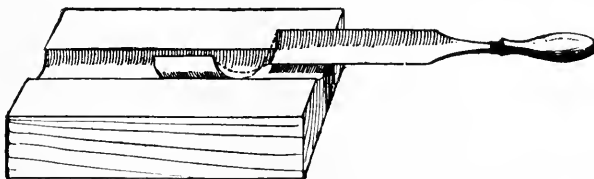
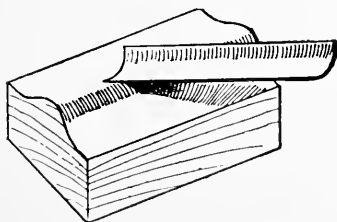

Fig. 160
Fig. 161
51. **The Gouge** is like the chisel except that the blade is curved. The common gouge has the basil or bevel on the convex or outer side and is known as an “outside” gouge. It is used for ordinary work. The “inside” gouge has the basil on the inner or concave side, and is useful for some purposes, but is less important than the outside gouge for general work, and is harder to sharpen. Gouges, like chisels, are of various kinds for different uses, and are of different degrees of “sweep” or curvature,—Fig. 159 showing a “flat” and a “quick” curve. In using the outside gouge, light, short strokes frequently have to be made, for only the basil bears on the wood, which makes this gouge hard to control at times; but as long strokes should be taken as the nature of the wood will allow. The gouge can often be rolled around with the hand to make a slanting cut (see page 31), sometimes useful with crooked grain or across the grain (Fig. 160). In working out a moulding or other odd shape, for instance, the tool can often be held at an angle with the work (Fig. 161). Watch the grain of the wood. Try not to scoop little hollows